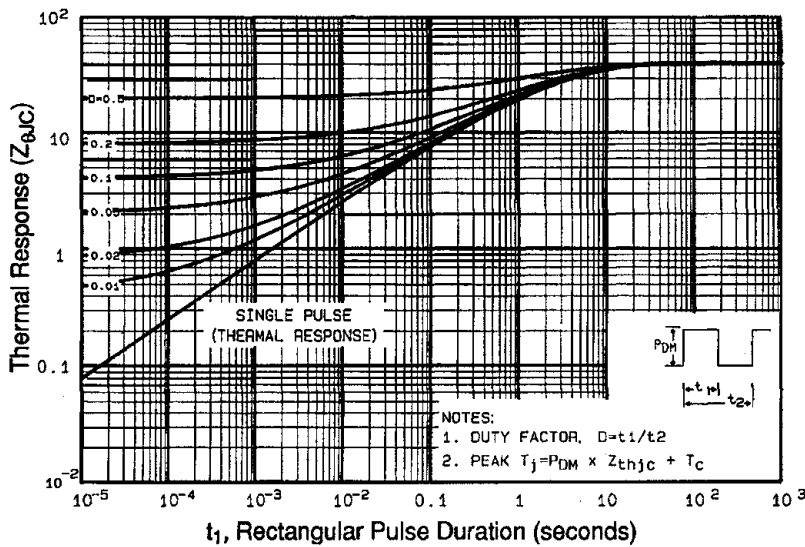

Fig 11. Maximum Effective Transient Thermal Impedance, Junction-to-Case
- ① Repetitive rating; pulse width limited by max. junction temperature. ( See fig. 11 )
- ②  $V_{DD}=25V$ , starting  $T_J = 25^\circ\text{C}$ ,  $L = 16\text{mH}$